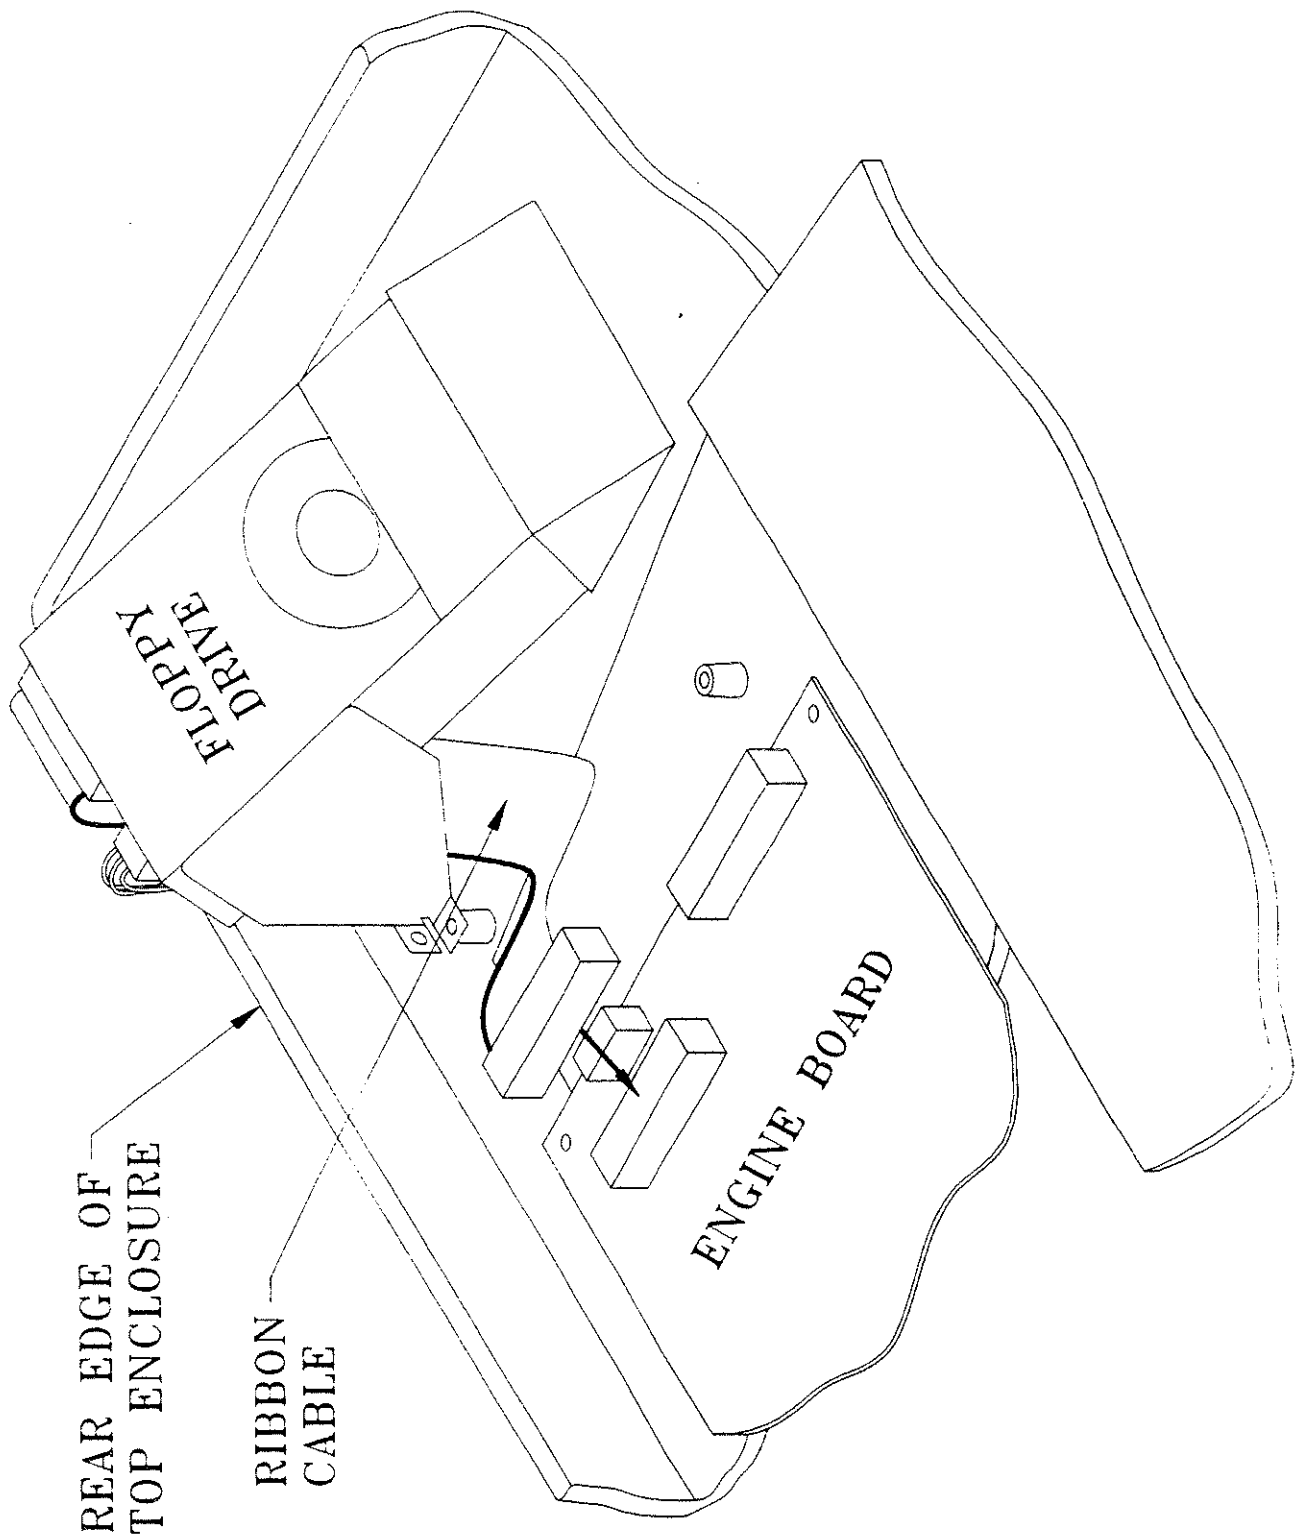

FIGURE 2
5. **IMPORTANT:** Be sure that the floppy disk drive ribbon cable is routed as shown in figure 2. It's necessary to route the cable as shown, in order to ensure that the cable does not interfere with the fan's airflow. If the cable is not routed as shown, then:
- b. Route the cable between the floppy disk drive mounting brackets and the top enclosure, then pull the loose end of the ribbon cable between the legs of the mounting bracket on the left side of the floppy disk drive (see figure 2). Be sure that the ribbon cable lays flat against the inside of the top enclosure. This ensures that it will not interfere with the installation of the sampling option board. (The sampling option board is fastened between the floppy disk drive and the engine board). If you plan to install the sampling option, the FK1 fan kit should be installed before the sampling option board.